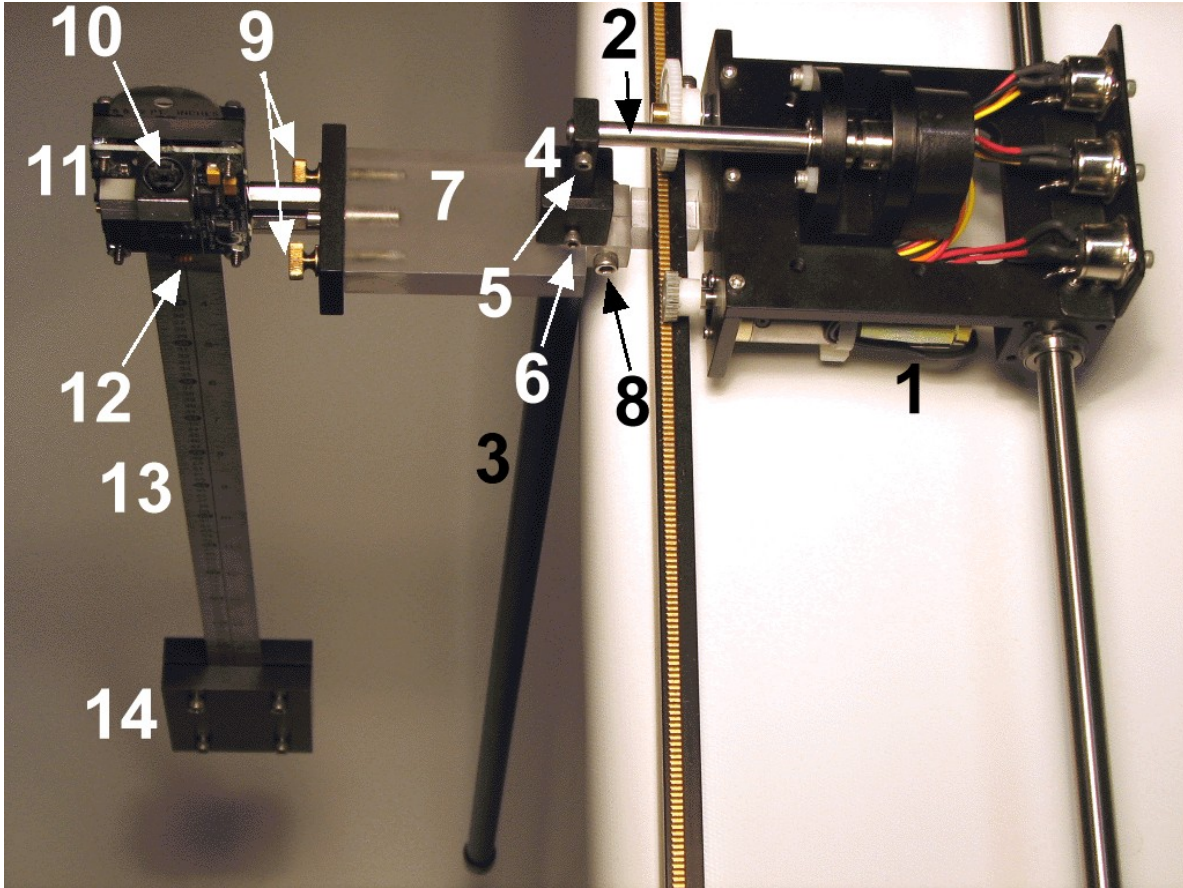
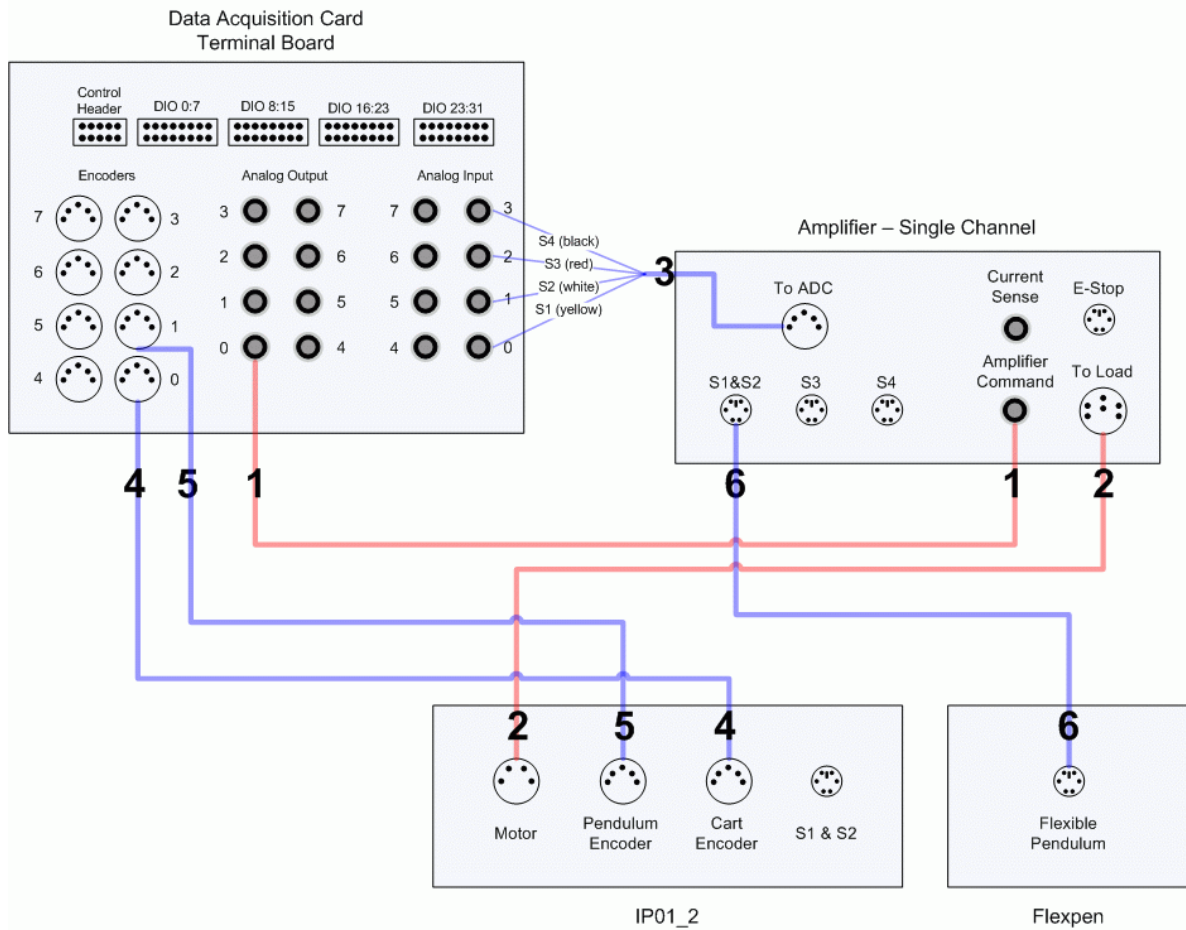

Figure 2 Components of IP02+FLEXPEN system.
Figure 3: Connections between Quanser Flexible Pendulum, power amplifier, and DAQ board.
Figure 2 shows the IP02 cart attached with the flexible pendulum assembly. The components comprising FLEXPEN system labeled in Figure 2 are described in Table 1. For more information on the IP02 components see Reference [2].
1. Fasten the flexpen connector, ID #7 in Figure 2, above, on the long pendulum. This connects the long 24-inch rigid pendulum to the flexible pendulum. Tighten the flexpen connector screw, ID #8, and make sure the connector does not slip about the pendulum rod.
2. Attach the flexible pendulum to the flexpen connector, ID #7, that connects the rigid pendulum with the flexible pendulum, as illustrated in Figure 2. Tighten the two thumb screws, ID #9 in Figure 2, to fasten the flexible pendulum on the bracket.
pendulum axis (ID #2), as illustrated in Figure 2. Gently tighten the axis screw, ID #5 shown in Figure 2, as needed to ensure the pendulum is properly fastened to the metal shaft. See Section 4.2 in Reference [3] for details.
2. Connect the "**From ADC**" socket on the amplifier to Analog Inputs #0-3 using the 5-pin-DIN to 4xRCA cable, as illustrated in Figure 3. **Ensure amplifier and PC are off when making this connection.** The signal connected to the S1 & S2 terminal on the amplifier is read in as Analog Input #1 in QUARC. The wiring is summarized in Table 3.
3. Connect the analog connector on the strain gage of the flexible pendulum, ID #10 in Figure 2, to the "**S1 & S2**" socket on the amplifier using a 6-pin-mini-DIN to 6-pin-mini-DIN analog cable. This connection is shown in Figure 3. **Ensure the amplifier is not powered when making this connection.**